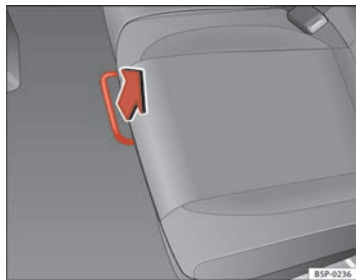

Fig. 98 For unlocking the rear seat
- In the seated position, unlock the lever in the direction of the arrow ⇒ fig. 98.